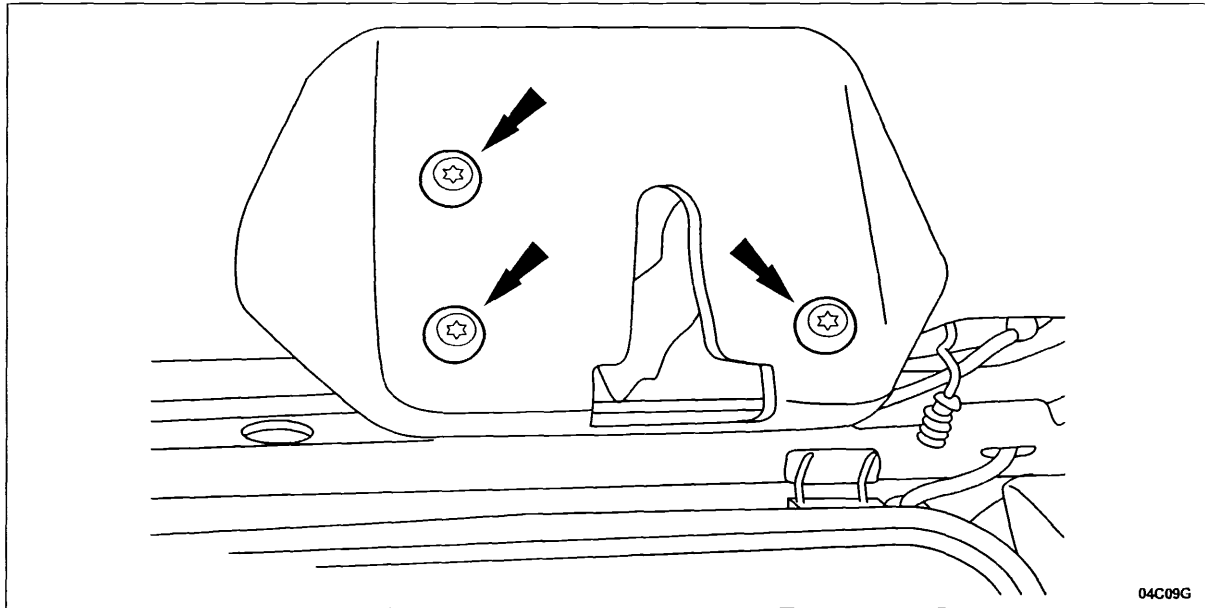

FIGURE 7
2. Apply Motorcraft Medium-Strength Threadlocker TA-25 (blue) to the bolts and install the three (3) liftgate latch bolts. See Figure 7.